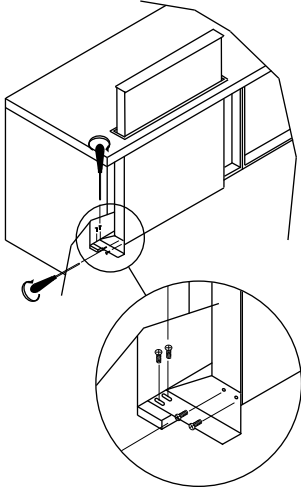

Fig 5
2. Fix the Elektra to the cupboard using the bracket provided (Fig 5).